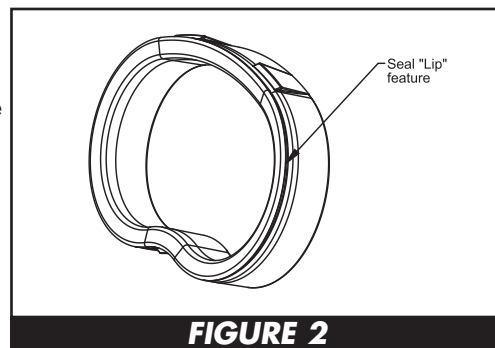

FIGURE 2
11. To reassemble, re-seat seals into the seal cavity of the control valve body being sure that the lip of the seal is facing outward. **See Fig. 2.**